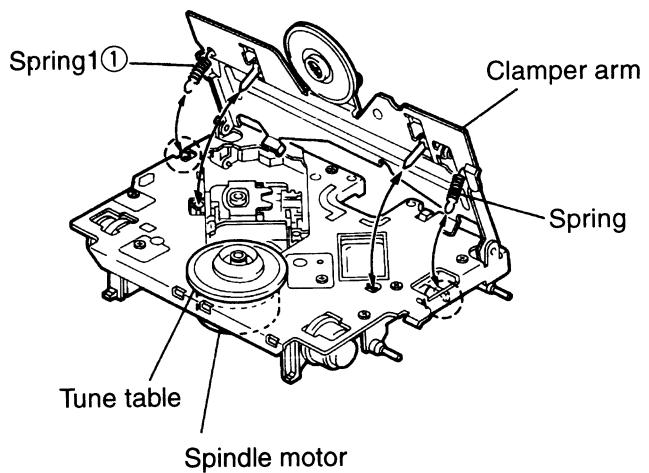

Fig. 22
1. After turning back the CD mechanism to initial position, remove the two sparrings (k) and (i) on both the right and left sides of the clamper arm (See Fig. 22 and Fig. 23).